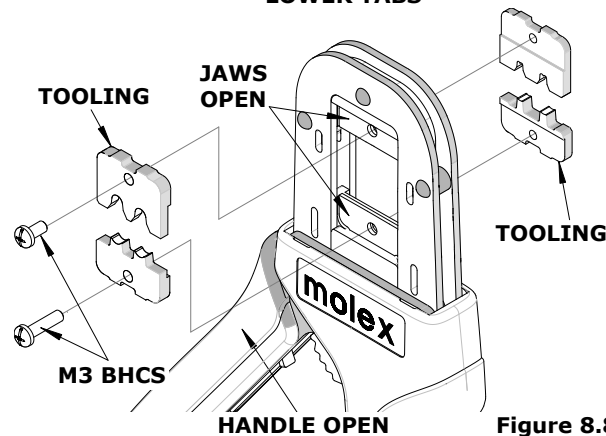

Figure 8.8
3. Remove the crimp dies as shown in Figure 8.8.